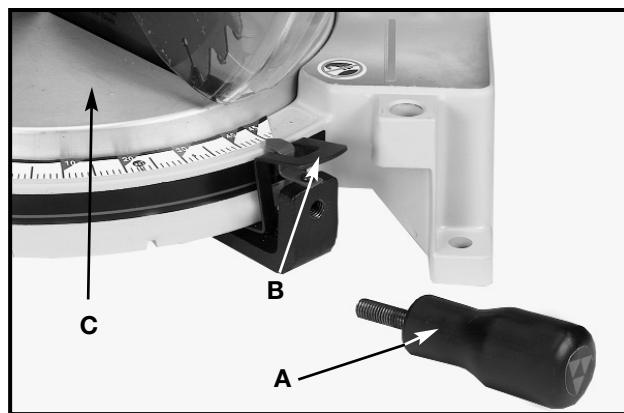

Fig. 6
1. Loosen locking knob (A) Fig. 6 by turning counter-clockwise. Depress lever (B) and rotate table (C) to the 0° straight cut-off position, release lever (B), and tighten locking knob (A).